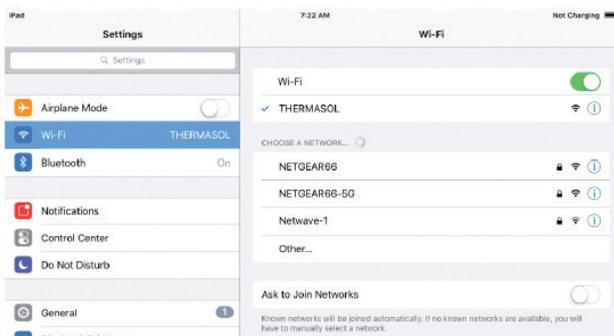

Figure 5: Apple Wi-Fi settings
5. After connecting you will see a check mark next to ThermaSol as shown below in Figure 5